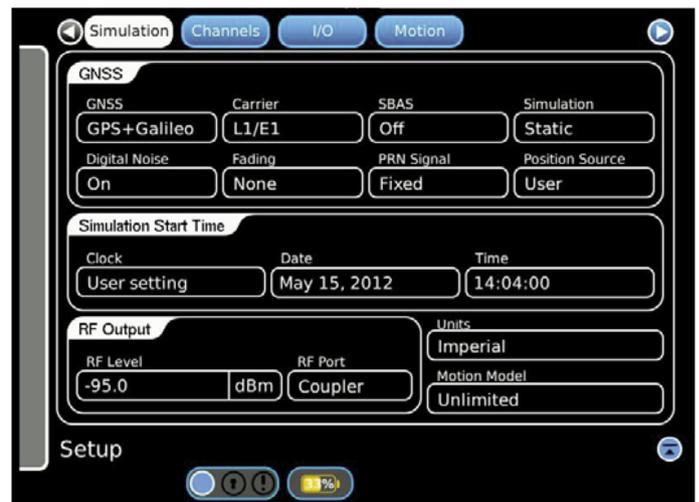

Figure 5
- On both GPSG-1000 units Setup screen select the Simulation tab. Set the Simulated Start Time fields to the same values. Set the RF Output, RF Level to the same value. See Figure 5.
- On the GPSG-1000 #1 Setup screen in the GNSS fields, set GNSS to GPS+Galileo and Carrier to L1/E1. See Figure 5.